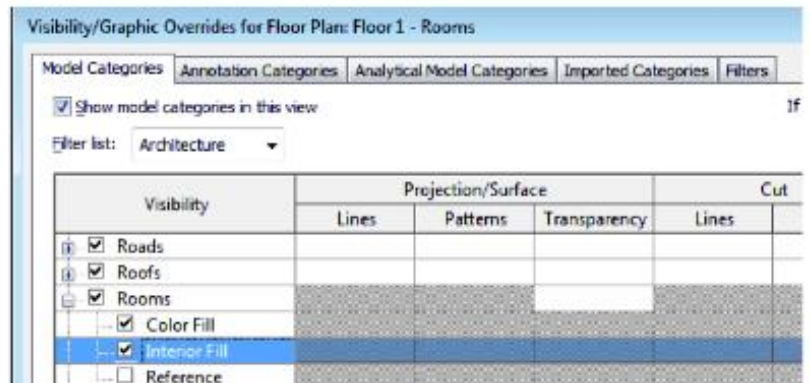

Figure 15–26
- Open the Visibility/Graphic Overrides dialog box. In the *Model Categories* tab, expand **Rooms**, and select **Interior Fill**, as shown in Figure 15–26.